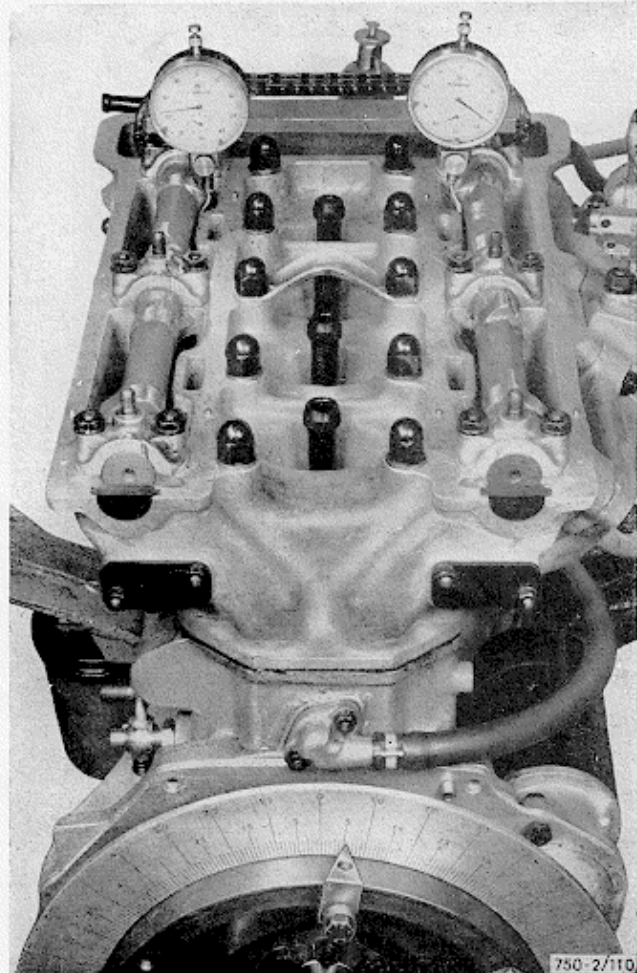

Fig. 110 - Working out the valve opening and closing angles by means of a graduated sector and tool No. 6121.01.053
- 5) Then check the valve opening and closing angles: for this purpose, place in line with cylinder No. 1 tool 6123.01.053 which is provided with two gauges whose ends (fig. 110) are arranged to rest on the valve tappets.